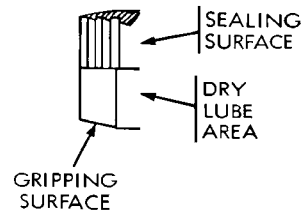

Figure 27: Sleeve
1. Check the sealing surface (see **Figure 27**) for nicks, scratches or galling.
2. Visually inspect gripping surface (sloping OD, Figure 27) for severe brinelling from hose braid, crimping or obvious out-of-round condition.